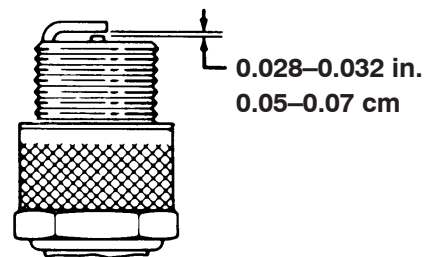

Figure 32
3. Set the air gap at 0.028 to 0.032 in. (0.05 to 0.07 cm) (Fig. 32).